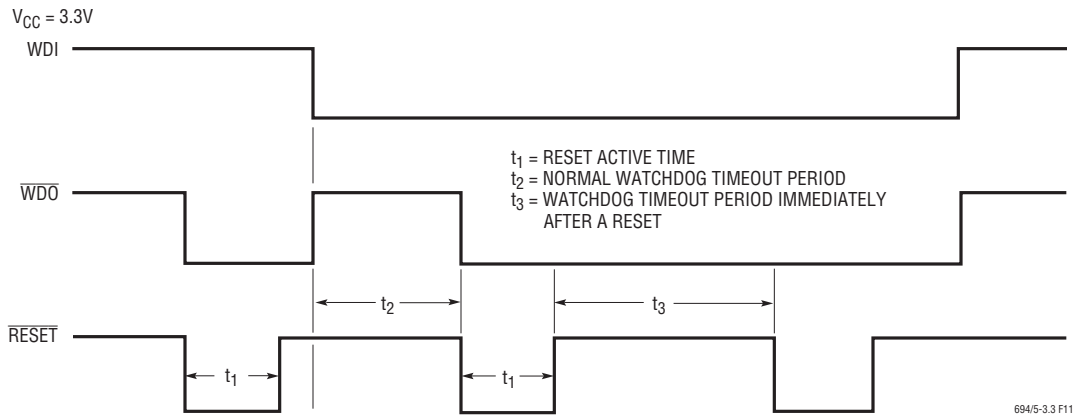

Figure 11. Watchdog Timeout Period and Reset Active Time
**$\overline{RESET}$ :** Logic Output for  $\mu P$  Reset Control. Whenever  $V_{CC}$  falls below either the reset voltage threshold (2.90V, typically) or  $V_{BATT}$ ,  $\overline{RESET}$  goes active low. After  $V_{CC}$  returns to 3.3V, the reset pulse generator forces  $\overline{RESET}$  to remain active low for a minimum of 140ms. When the watchdog timer is enabled but not serviced prior to a preset timeout period, the reset pulse generator also forces  $\overline{RESET}$  to active low for a minimum of 140ms for every preset timeout period (see Figure 11). The reset active time is adjustable on the LTC695-3.3. An external push-button reset can be used in connection with the  $\overline{RESET}$  output. See Push-Button Reset in the Applications Information section.
The LTC694-3.3/LTC695-3.3 provide a watchdog timer function to monitor the activity of the microprocessor. If the microprocessor does not toggle the watchdog input (WDI) within a selected timeout period,  $\overline{RESET}$  is forced to active low for a minimum of 140ms. The reset active time is adjustable on the LTC695-3.3. Since many systems can not service the watchdog timer immediately after a reset, the LTC695-3.3 has a longer timeout period (1.0 second minimum) right after a reset is issued. The normal timeout period (70ms minimum) becomes effective following the first transition of WDI after  $\overline{RESET}$  is inactive. The watchdog timeout period is fixed at 1.0 second minimum on the LTC694-3.3. Figure 11 shows the timing diagram of watchdog timeout period and reset active time. The watchdog timeout period is restarted as soon as  $\overline{RESET}$  is inactive. When either a high-to-low or low-to-high transition occurs at the WDI pin prior to timeout, the watchdog time is reset and begins to time out again. To ensure the watchdog time does not time out, either a high-to-low or low-to-high transition on the WDI pin must occur at or less than the minimum timeout period. If the input to the